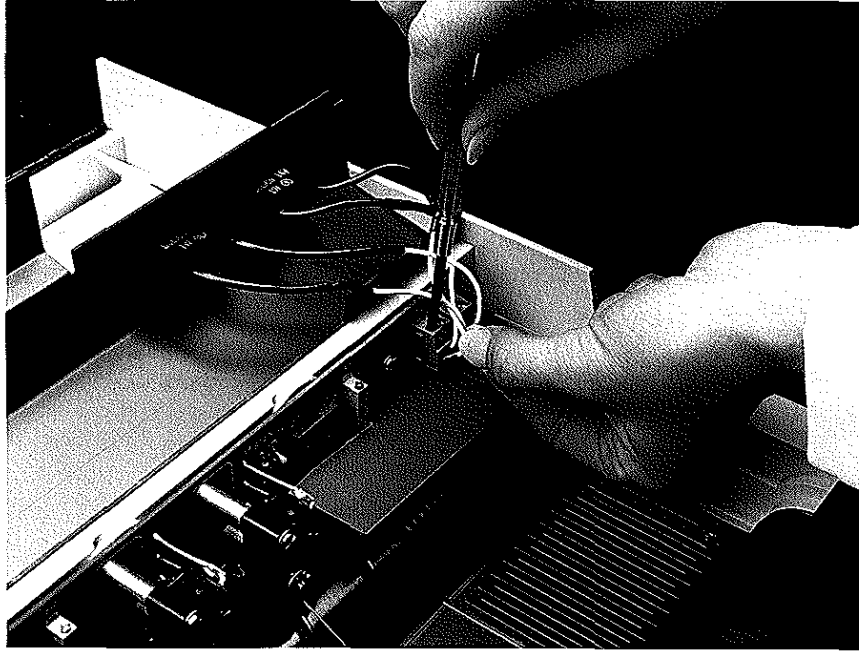

Figure 8-3
4. Disconnect the wires from the circuit board for the light that is to be replaced. Using a small, blade-type screwdriver, loosen the two small screws located on the top of the connector (the screws will not come out completely), then pull on the connector wires to remove them from the connector (Figure 8-3).